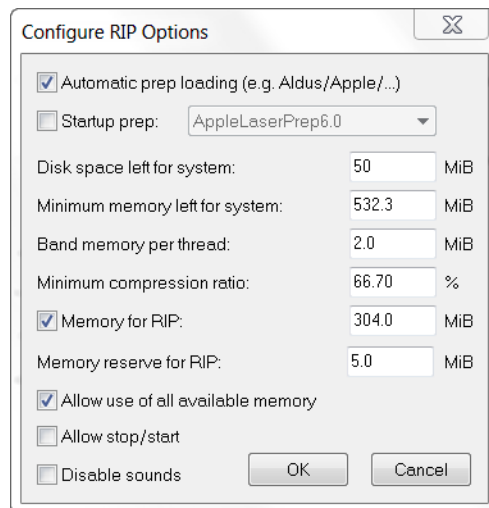

Figure 2.2 Memory settings for TrapPro
- Ensure Allow use of all available memory is selected, as this will allow all free memory to be made available to the RIP. The Configure RIP Options dialog should now look similar to Figure 2.2.